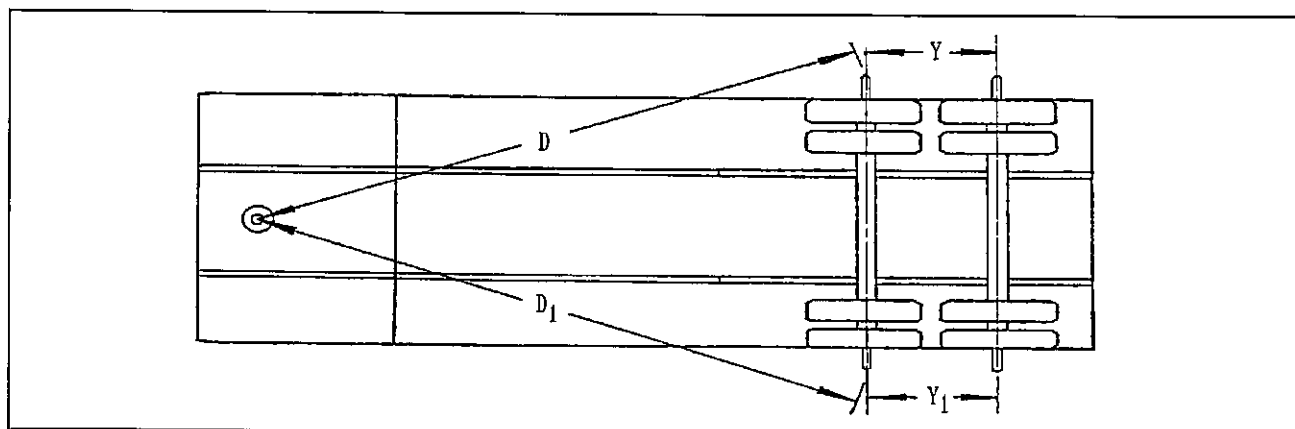

Fig. 4-9 Checking Axle Alignment
- 4. Measure (D) from the plumb bob to the center point on one end of the axle. Record this measurement (See Figure 4-9).**
5. Measure (D1) to the other end of the axle in the same manner as in Step 4. Record this measurement (See Figure 4-9).